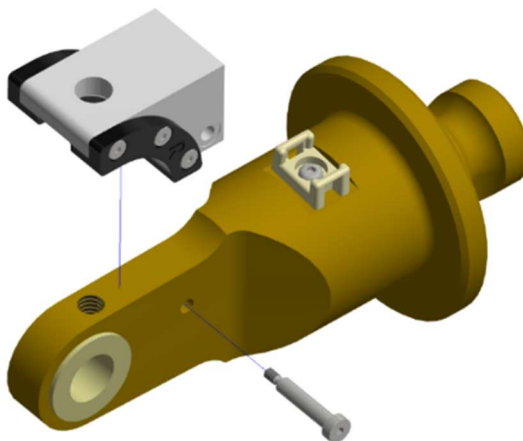

Figure 11-16. Remove the Elbow Friction Plate (474-6116-A) from the Distal Upper Arm Tube Assembly (474-6115) by removing one M3 X 14 LG. Prec. SHSS SS
- 11.2.12 Remove the Elbow Friction Plate (474-6116-A) from the Distal Upper Arm Tube Assembly (474-6115) by removing one M6 X 1 X 12 LG. BHCS with M6 Nylon Flat Washer and one M3 X 14 LG. Prec. SHSS SS (Figure 11-15 and Figure 11-16).